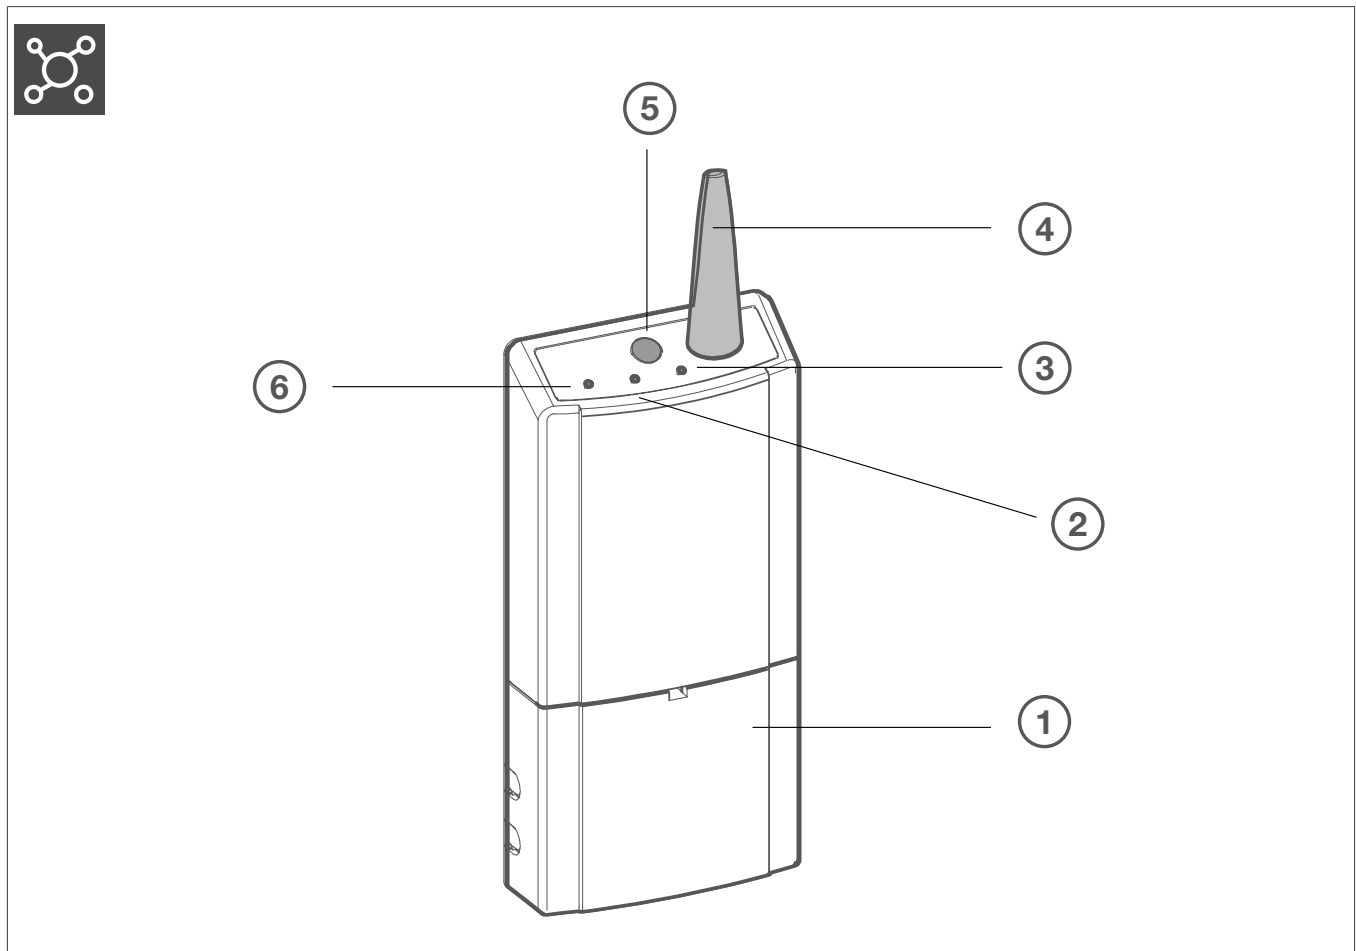

Fig. 2: Design and layout of the device
- Do not position receivers in the radio shadow of metallic building elements if possible. Do not install transmitters/receivers behind metallic surfaces or in metallic housings. The areas behind metallic building elements such as pedestals, ceiling beams or fire doors constitute radio shadows (see Figure 2). Receivers installed in such shadows cannot receive signals directly and have to depend on reflected radio waves.